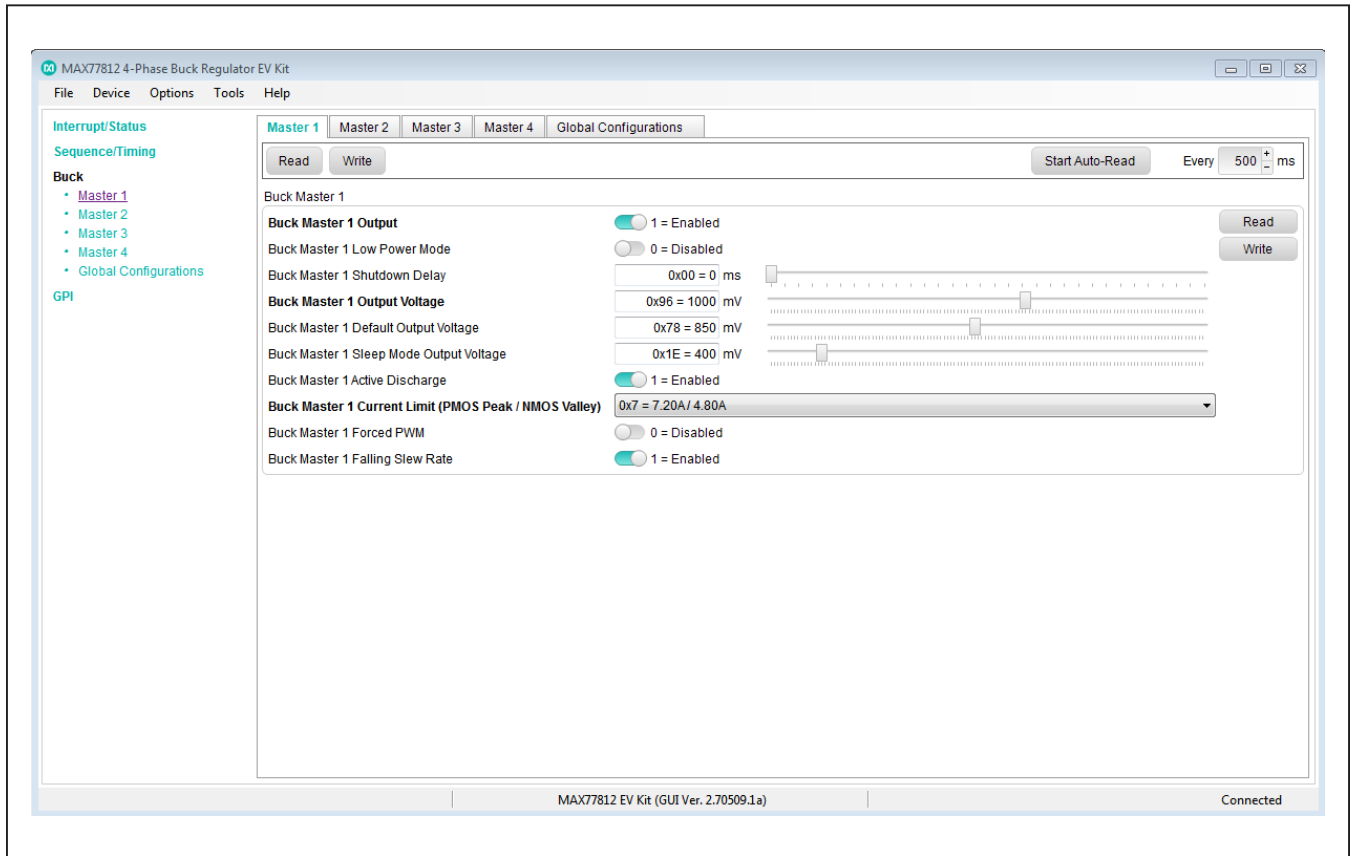

Figure 5. MAX77812 EV Kit GUI  $V_{OUT}$  Enable
- 5) Go to the **Buck** then **Master 1** tab and select the following settings (Figure 5):